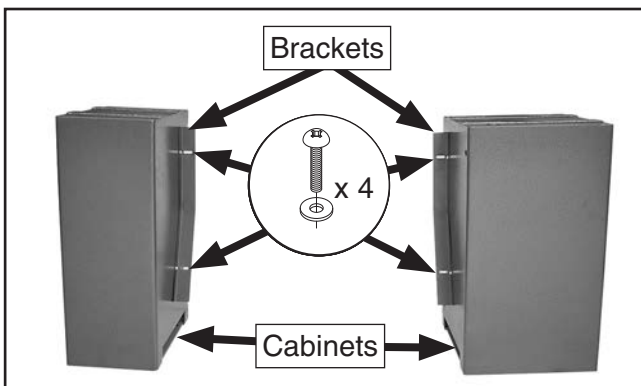

Figure 10. Brackets installed (rear view).
2. Secure front panel brackets to cabinets with (4) M6-1 x 10 Phillips head screws and (4) 6mm flat washers (see **Figure 10**).